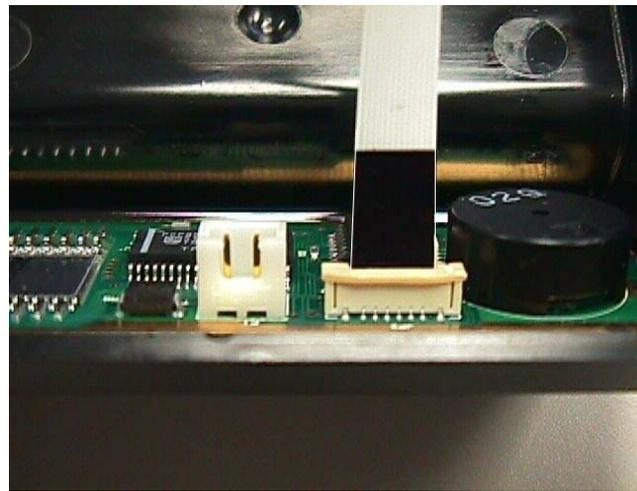

Fig. 12 - Plug flex cable into ZIF connector and close ZIF connector
22. Plug the flex cable into the ZIF connector so that the silver leads are facing the contacts in the connector. Close the ZIF connector to lock the flex cable in place. Ensure that both sides of the connector are snapped in place and that the flex cable is squared to the connector (Figure 12).
24. Plug the two pin key reader cable into the two pin connector on the keypad assembly, located next to the ZIF connector (Figure 12).